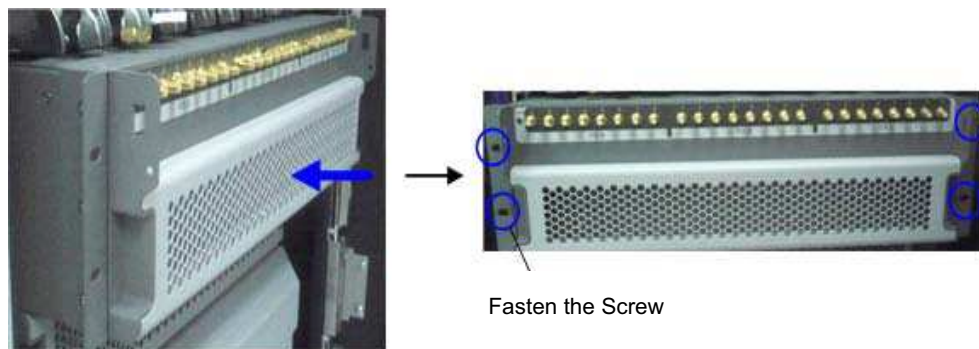

Figure 3-14 Installing the Divider Unit
Step 5 Install the DIU as shown in Figure 3-14.